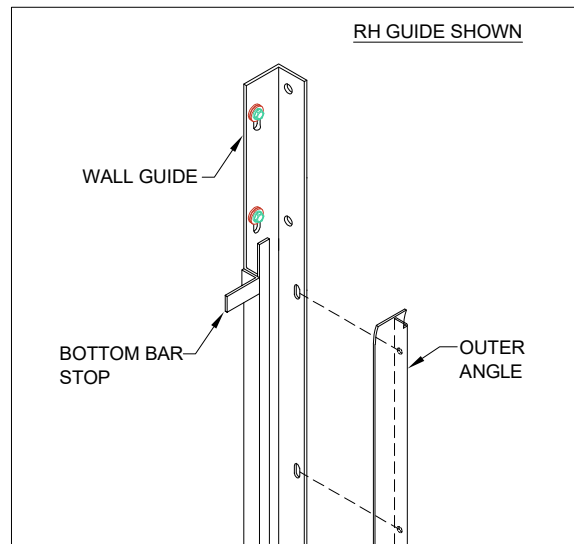

FIGURE 14
- i. Install guide service cutouts with bottom bar stops pre-attached as shown in Figure 14. Note that shorter guide sets may not include service cutouts.